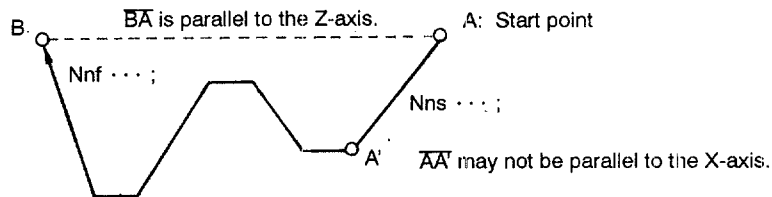

Fig. 4.27 Restrictions on the End Block of Finishing Shape Program
- For the end block of the finishing shape program, the restrictions shown in Fig. 4.27 apply. Therefore, the G command to be specified in the end block (Nnf . . . ;) must be either G00 or G01.